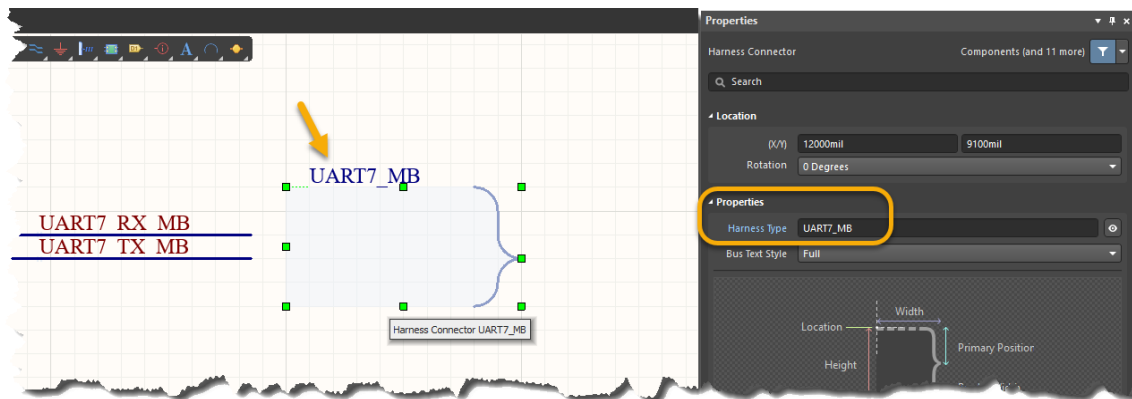

Figure 6. Harness Connector UART7_MB
18. In the *Harness Type* field, add the name of UART7_MB and hit **Enter**, as shown in Figure 6.